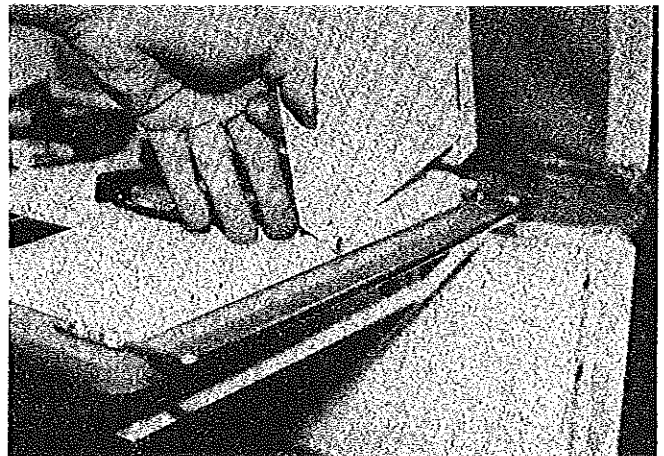

FIGURE 40
45. Prior to lighting the stove, open the stove cover and secure the splash guards on both sides of the stove cooktop. See Figure 40.